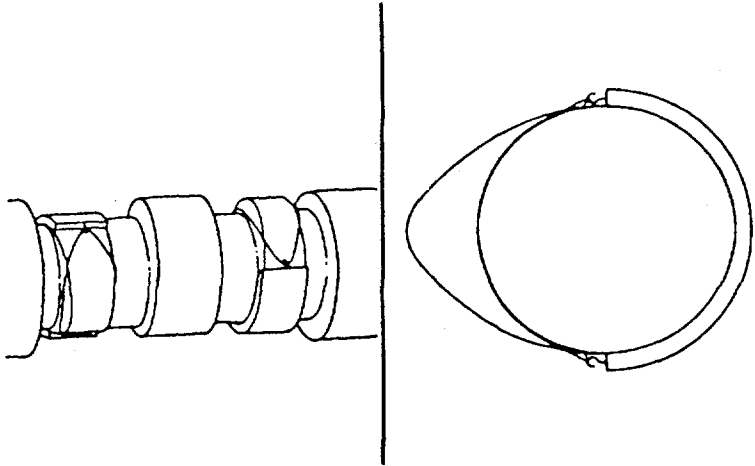

FIGURE 3-52. Camshaft Installation Pilots.
- a. Install four camshaft pilots over the outer base circle of the valve lobes between the camshaft journals (Figure 3-52).
- b. Use a rubber band to hold the installation pilots in place. The rubber band must straddle the valve lobe (Figure 3-52).
- c. Install four camshaft pilots over the outer base circle of the valve lobes between the camshaft journals (Figure 3-52).
- d. Use a rubber band to hold the installation pilots in place. The rubber band must straddle the valve lobes (Figure 3-52).